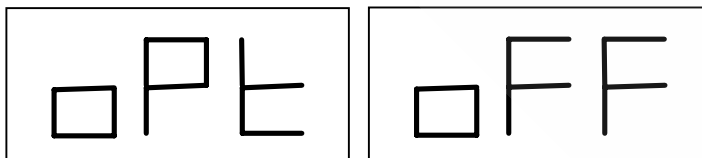
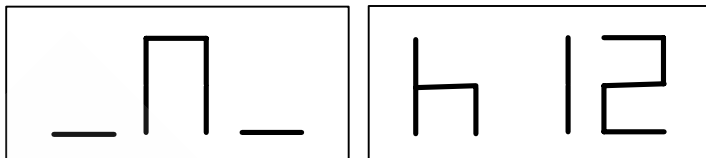

Fig. F5.2 Optimisation Program not possible
Fig. F5.3 - "Bring the valve to the 12 o'clock position" message
- If the wheel's static imbalance is less than 12 grams, the machine will display the message shown in Figure F5.2 for a second and then will automatically exit the optimisation program. If the wheel's static imbalance is instead greater than or equal to 12 grams, the message shown in Figure F5.3 will be displayed;
7. At the end of the cycle, the message seen in figure F5.3 will be displayed. Two options are available: